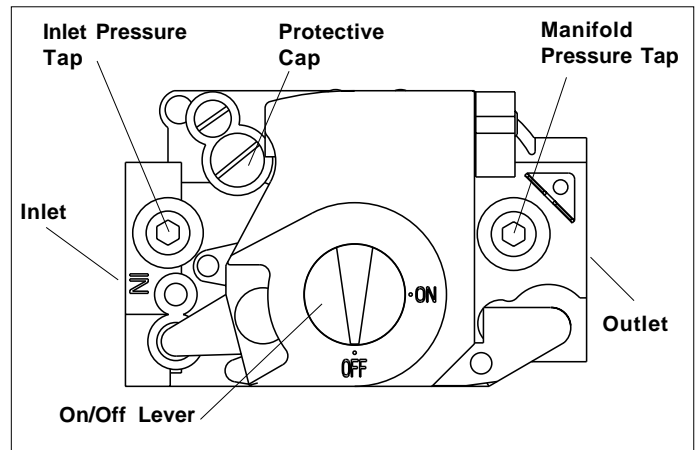

Figure 3. Gas Valve (Honeywell shown)
7. After the flame ignites, visually inspect the burner assembly to ensure that the flame is drawn directly into the center of the heat exchanger tube, as shown in Figure 3. The end of the flame will be out of sight around the bend of the heat exchanger tube. In a properly adjusted burner assembly, the flame color should be blue with some light yellow streaks near the outer portions of the flame.
1. With a 3/16" Allen wrench, remove the manifold pressure tap plug located on the outlet side of the gas valve. Refer to Figure 3.
5. Allow the furnace to operate for three (3) minutes and then check the manifold pressure. For natural gas installations, the manifold pressure should be set to 3.5" WC. For LP gas installations, the manifold pressure should be set to 10" WC. If the manifold pressure is not set to the appropriate pressure, then it must be adjusted.
1. If the manifold pressure must be adjusted, then remove the protective cap from the top of the gas valve regulator, as shown in Figure 3.